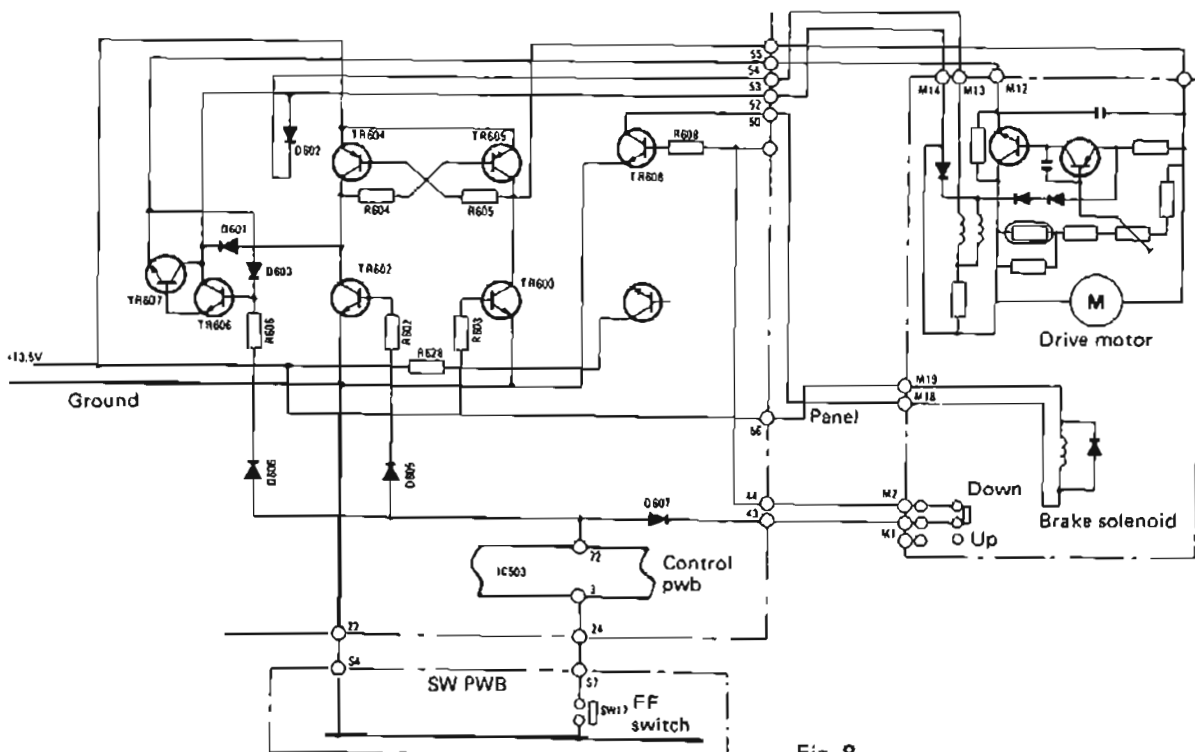

Fig. 8
**3. FF-mode operation (Refer to Fig. 8.)**
In the circuit diagram of Fig. 8, FF switch (SW-17) is indicated. Pressing this switch causes pin (22) of IC503 to instantly rise to "H". This "H" level applies to the base of TR608 through panel-down switch and, by switching on this transistor, allows brake solenoid to be energized from the +13.6-volt source.